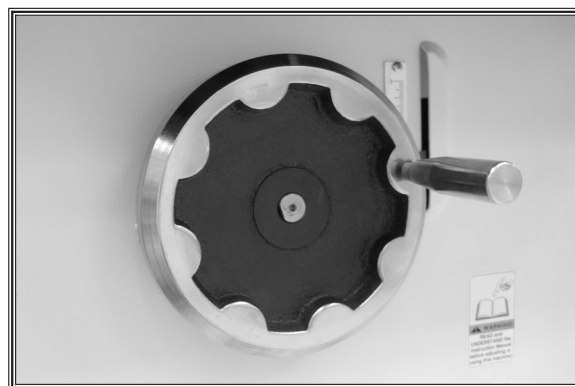

Figure 7. Handwheel and handle installed.
3. Thread the handle into the handwheel. **Figure 7** shows the handwheel properly installed.